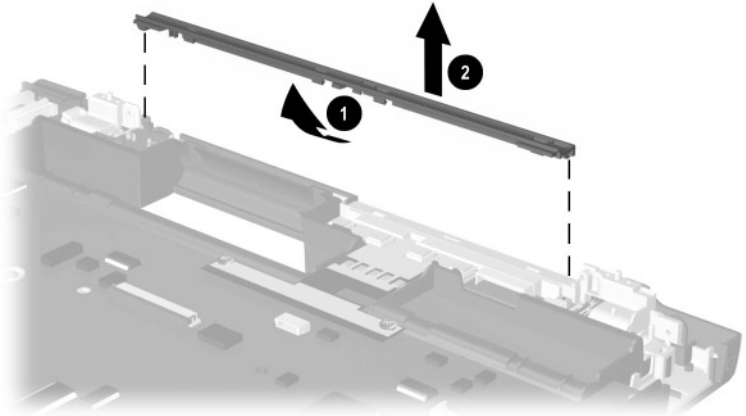

Figure 5-29. Removing the Center Display Support
2. Lift the inside edge of the center display support and swing it toward the back of the notebook ❶ (Figure 5-29).
3. Remove the center display support ❷.